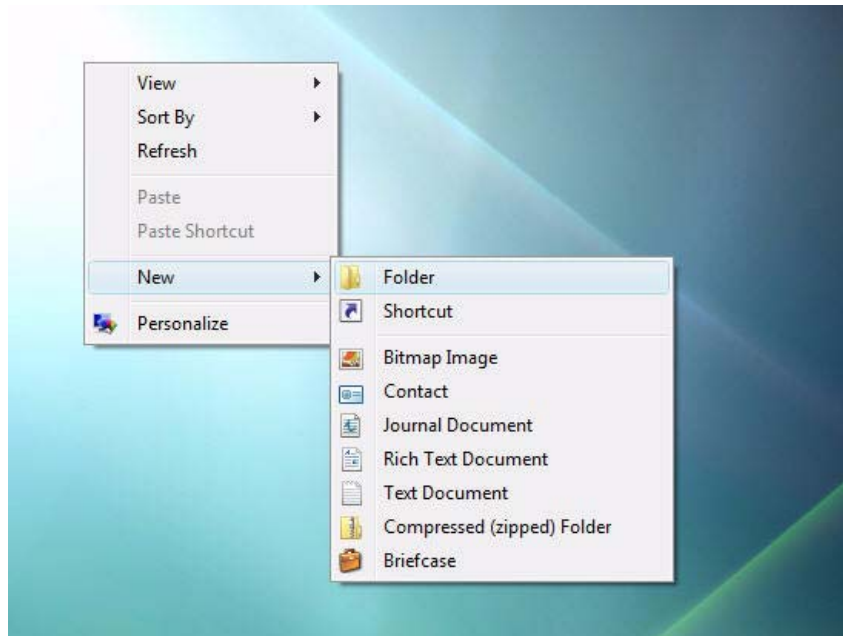

Figure D-11 Right-click on Desktop, Select New > Folder
1. Create a local folder on the Review Station for exported data. The new folder can be created in any available path on the hard disk drive. In the example below, the new folder was created by right-clicking on the Windows desktop, and then selecting **New > Folder** (Figure D-11).